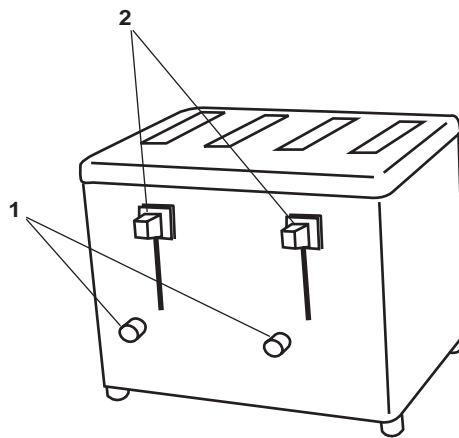

Figure 11. Toaster
- a. Set the adjustment knob (figure 11, item 1) about halfway between LIGHTER and DARKER.
- c. Start operation of the toaster by pressing down the front handle (figure 11, item 2) as far as it will go.
- d. Adjust the toasting level by moving the adjustment knob (figure 11, item 1) towards LIGHTER or DARKER as desired.